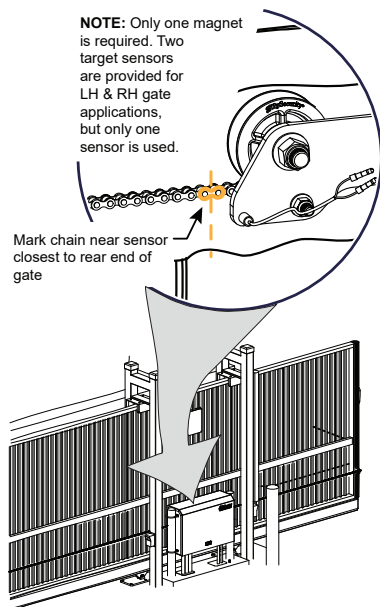

Figure 3. Mark Chain
1. **With gate CLOSED**, mark the chain link directly across from target sensor that is closest to the trailing edge of the gate as shown in Figure 3.